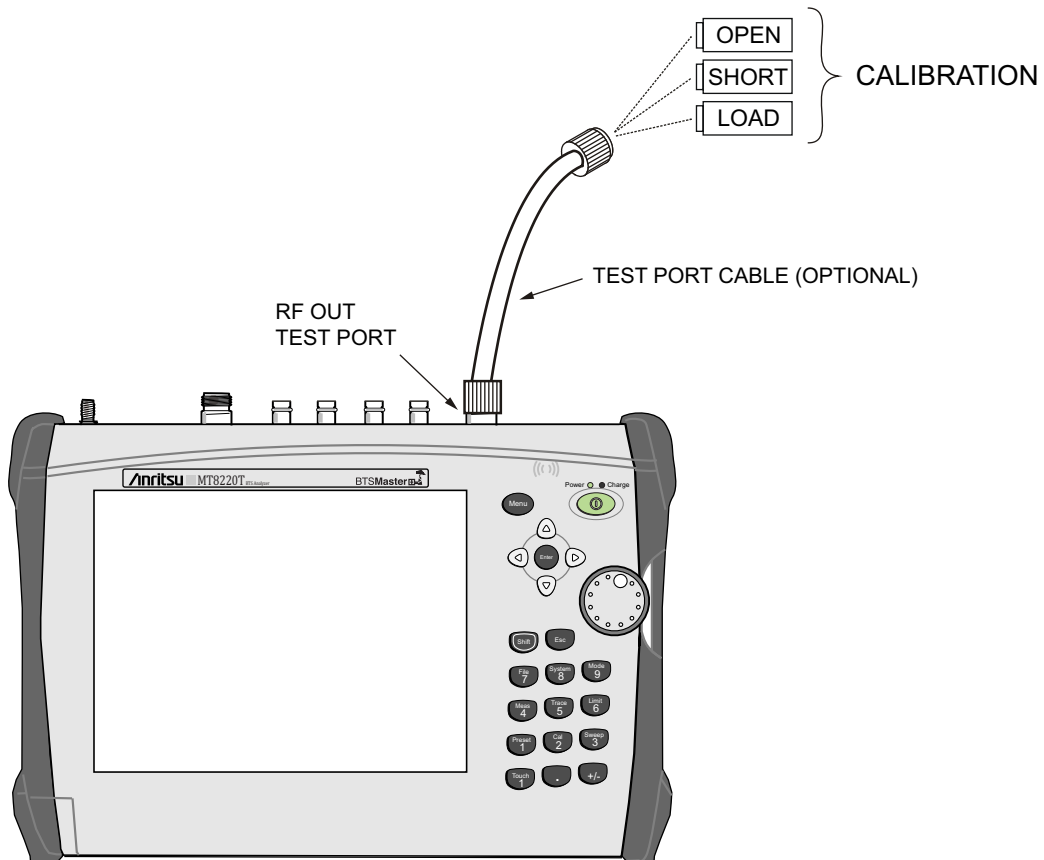

Figure 3-1. 1-Port Calibration
1. If a test port extension cable is to be used, connect the cable to the RF Out connector on the BTS Master. The calibration components will be connected at the end of the cable (Figure 3-1).
3. Press the **Shift** key and then the **Calibrate** (2) key.